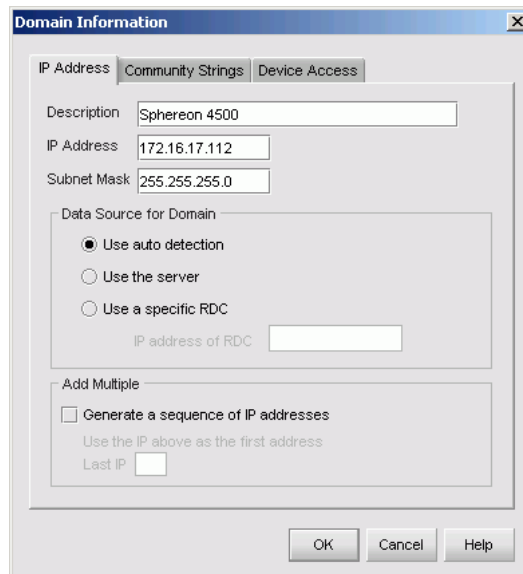

Figure 3-34 Domain Information Dialog Box (IP Address Page)
- e. Click *Add*. The *Domain Information* dialog box displays with the *IP Address* page open by default (Figure 3-34).